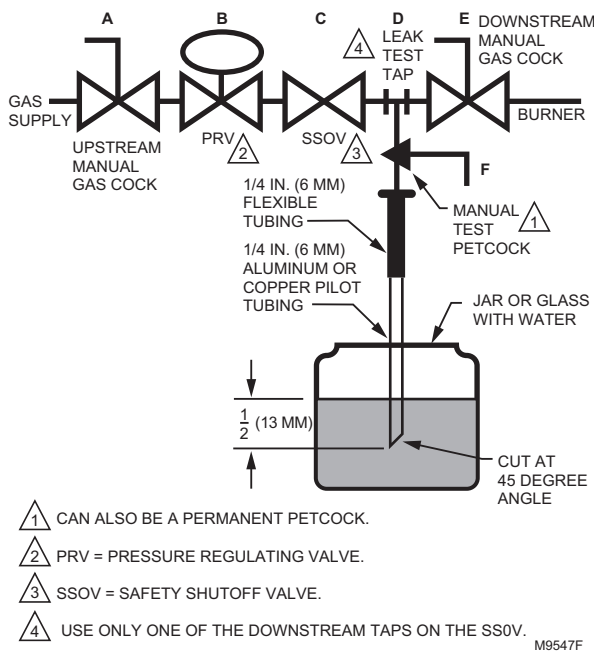

Fig. 8. Valve leak test.
Valve Leak Test (Fig. 8)
1. De-energize the control system to make sure no power goes to the valve (C, Fig. 8).
2. Close the upstream manual gas cock (A).
3. Make sure the manual test petcock (F) is closed in the leak test tap assembly (D).
4. Remove the leak test tap plug and connect the test apparatus to the leak test tap (D).
5. Close the downstream manual gas cock (E).
6. Open the upstream manual gas cock (A).
9. Slowly open the manual test petcock (F).
For periodic inspection and maintenance, set up a schedule and follow it. Include the burner, valves and all other burner controls. It is recommended that "Valve Leak Test (Fig. 8)" on page 6 be included in the schedule. Refer to the flame safeguard control instructions for more information.